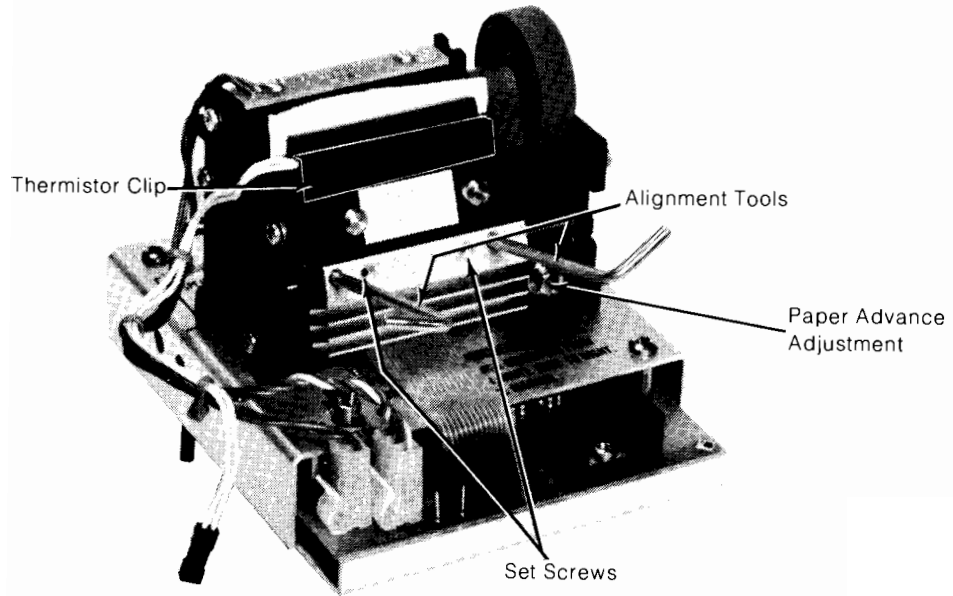

Figure 3-6 Print Head Alignment
7. Using the alignment tools (HP part number 8710-0693) as shown in Figure 3-6, move the print head up or down to get the best overall print quality.